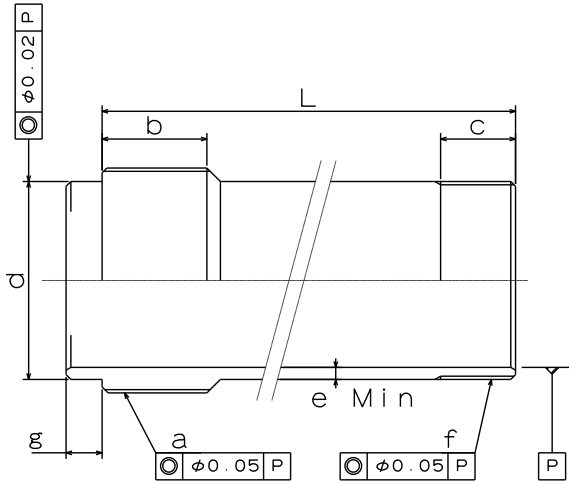

Fig.10
The dimension “L” in Fig.10 is determined from the distance “A” between the cylinder adaptor and the spindle.
- Keep the dimension “f” in Fig. 10 for the draw pipe and a material with the tensile strength 380MPa (38kgf/mm²) or more must be used.